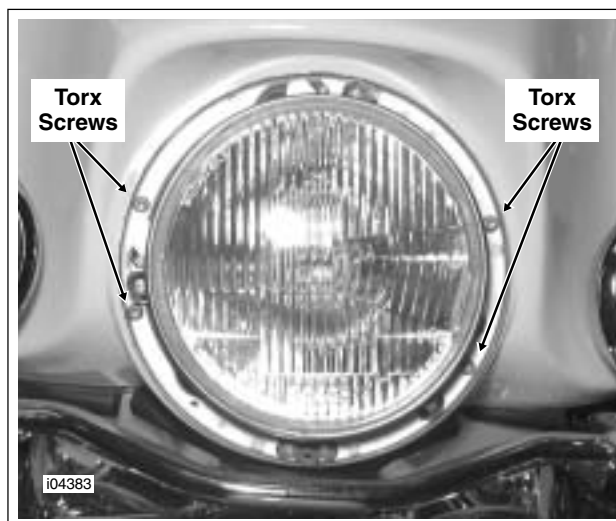
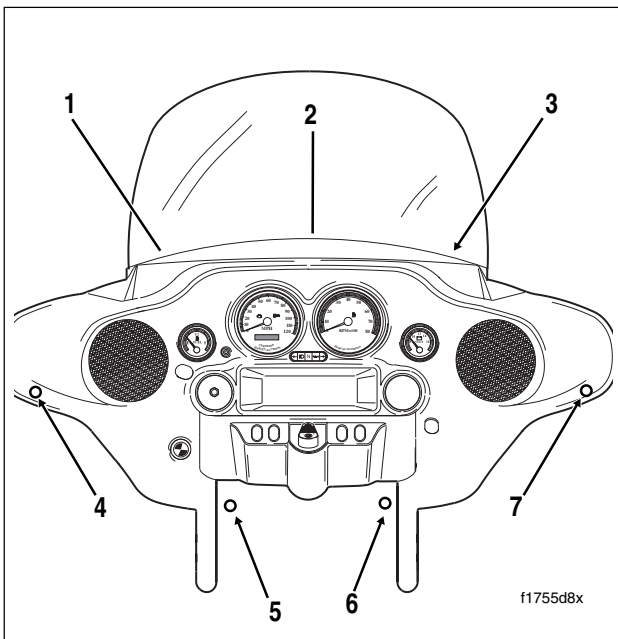

Figure 8-4. Headlamp Housing Mount (FLHTP)
Figure 8-6. Remove Outer Fairing (FLHTP)
3. **FLHTP**: Remove the four Torx screws to free the headlamp housing from the fairing. See Figure 8-4.
- a. See Figure 8-6. Standing at the front of the vehicle, use a T27 TORX drive head to remove the three outer fairing screws (1, 2 and 3) and flat washers just below the windshield.
- c. See Figure 8-6. Using a T27 TORX drive head, start the three outer fairing screws (1, 2 and 3) and flat washers just below the windshield.
- e. Turn the handlebar to the left and reaching in below the fairing cap, start the right side fairing screw (6). Turn the handlebar to the right and start the fairing screw (5) on the left side.
12. See Figure 8-4. Align holes in new headlamp assembly with those in fairing (headlamp door bracket at bottom). Install the four TORX screws.